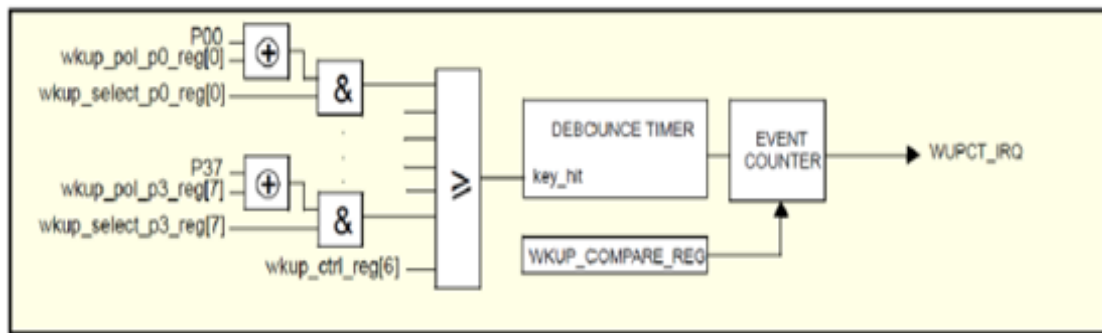

Figure 31 Wake-Up Timer Block Diagram
- The block diagram illustrating the Wake-up function is shown in Figure 31.
A LOW to HIGH level transition on the selected input port, while WKUP_POL_Px_REG[y] = 0, sets internal signal “key_hit” to ‘1’. This signal triggers the event counter state machine as shown in Figure 31. The debounce timer is loaded with value WKUP_CTRL_REG[WKUP_DEB_VALUE]. The timer counts down every 1ms. If the timer reaches 0 and the “key_hit” signal is still ‘1’, the event counter will be incremented.